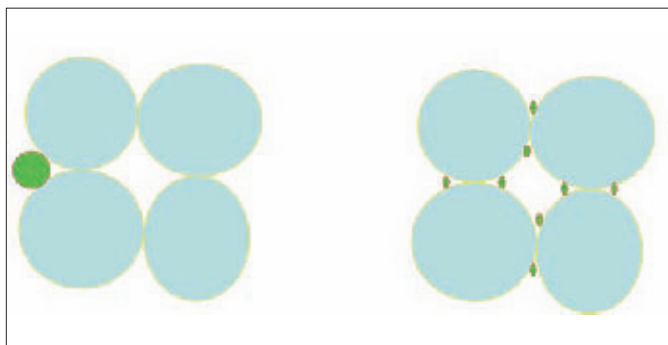

Fig. 3. This figure illustrates the favourable behaviour of nanolatexes in binding inconsistent granules.
- Consolidation.** In this case too, it is logical to assume that the use of small particles will be advantageous. The number of particles is proportional to $1/r^3$. Small particles allow for a higher number of hooking points between the grains of a substrate which is not very compact. However, the way in which the particles are positioned must also be taken into consideration. This is illustrated in Fig. 3.